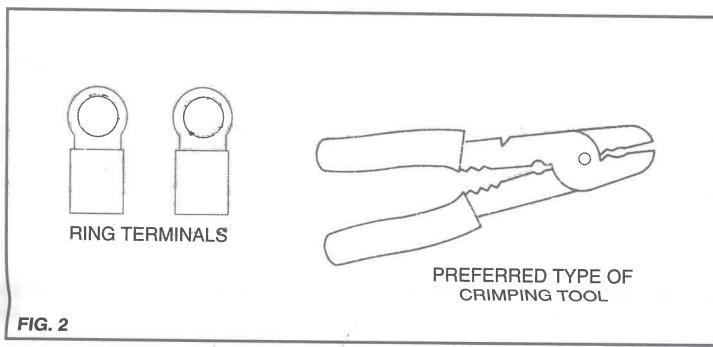

FIG. 2
C) Some pumps will require cutting the wires near the existing connector or terminals, and stripping 1/4" of insulation from the wires. Crimp on the new terminals using the recommended tool (Figure 2). If there is a protective rubber boot over the terminal it can be removed and discarded.